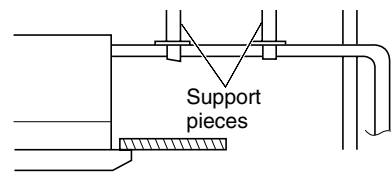

Fig. 3-42
- Do not apply force to the piping on the unit side when connecting the drain pipe. The pipe should not be allowed to hang unsupported from its connection to the unit. Fasten the pipe to a wall, frame, or other support as close to the unit as possible. (Fig. 3-42)